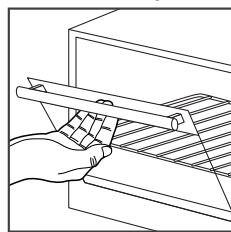

Figure 1
- Leave the door open approximately 3 inches from the closed position (see Figure 1).